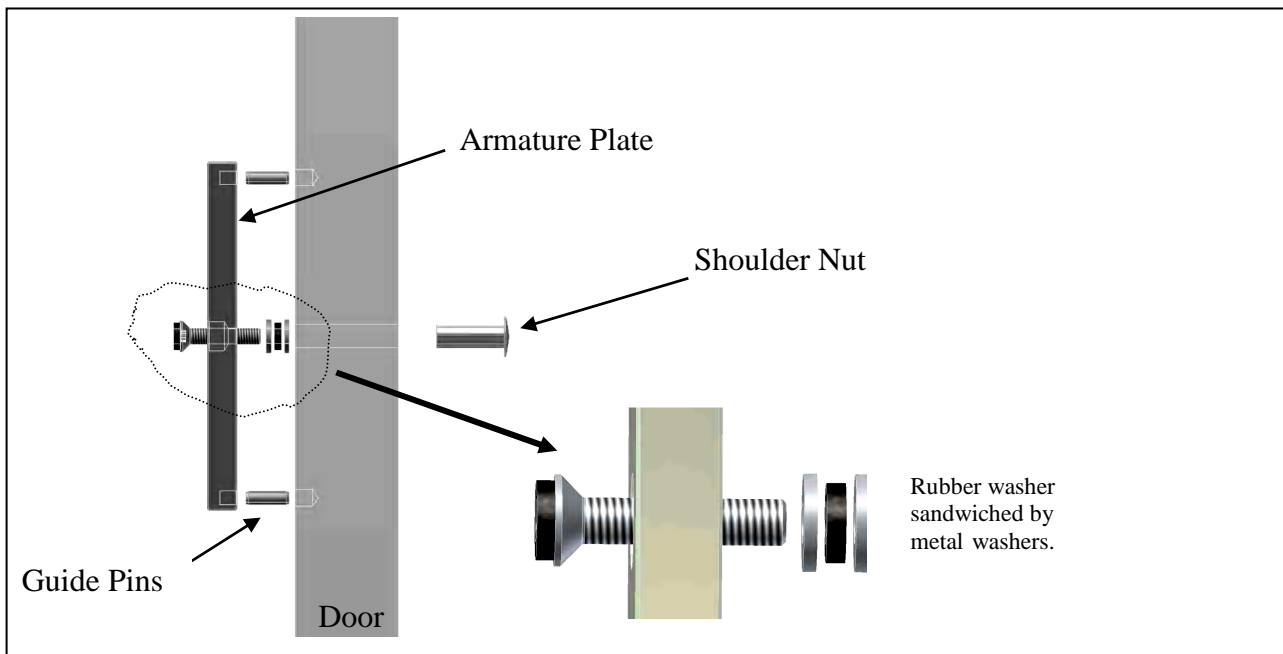

Figure 4
Step 6: The flat-head hex screw with the rubber top is placed in the armature plate. **Do not pull the rubber ring off the top of this screw. It is present to force a rapid release of the armature when the maglock is powered off.** Another rubber washer is sandwiched between metal washers as shown in figure 4. The hex screw is "snugged" into the shoulder nut using the hex tool provided. The armature plate should be free to wiggle slightly when installation is complete.